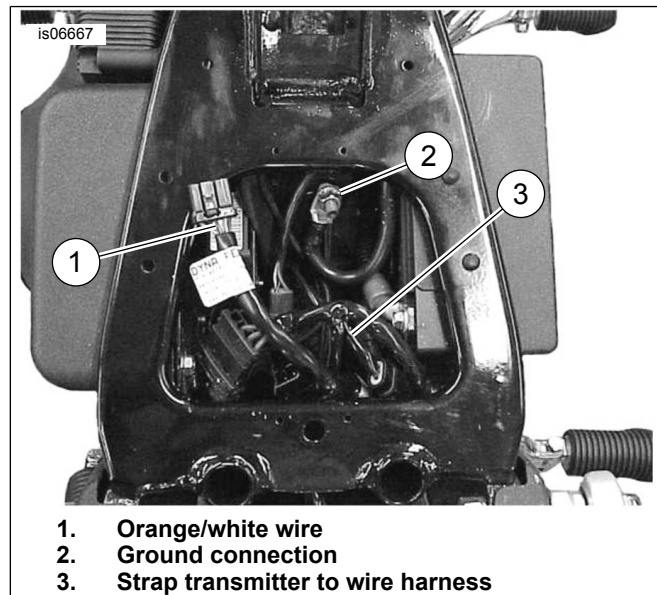

Figure 2. Transmitter Mounting (Dyna)
2. See Figure 2. Use cable straps to fasten the transmitter to the Dyna wire harness (3), located under the seat and near the battery compartment. Route the transmitter wires forward along the right side of the frame. Proceed to the **Harness Connection** section.